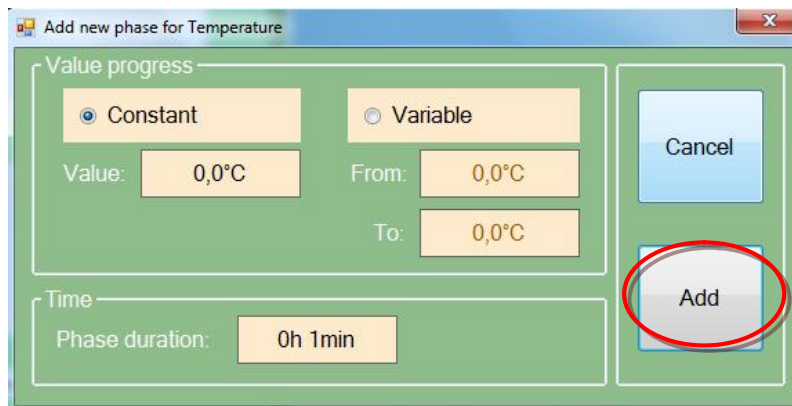

Figure 18 Addition of a new phase to the Protocol.
- Touch *Add new Phase* button. An edit window for editing the new phase will appear (Figure 18).